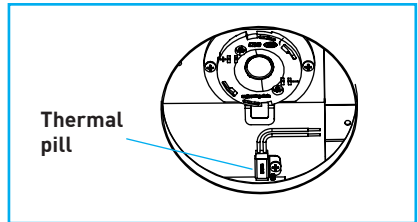

Fig.41
- E. On Non-IC High Flux Adjustable housings only, remove thermal pill from heatsink *"Fig.41"*.
- G. For Non-IC High Flux Adjustable housings only, install thermal pill on heatsink *"Fig.41"*.